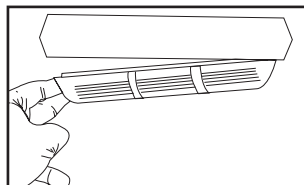

fig. 3
Replacing the Light Bulb (fig. 3)
2. Remove the plastic light shade located inside the freezer by lightly pressing to the left side. (see fig. 3)